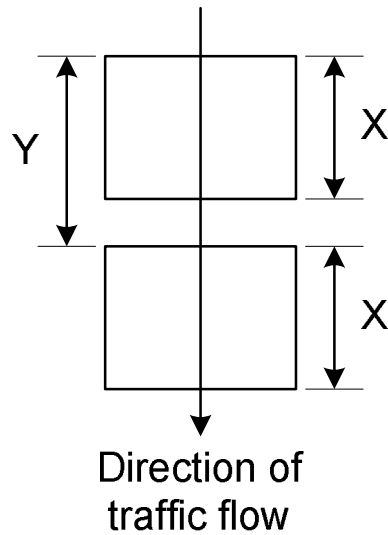

Figure 6 – Loop Dimensions
* Refer to Figure 6 below for reference